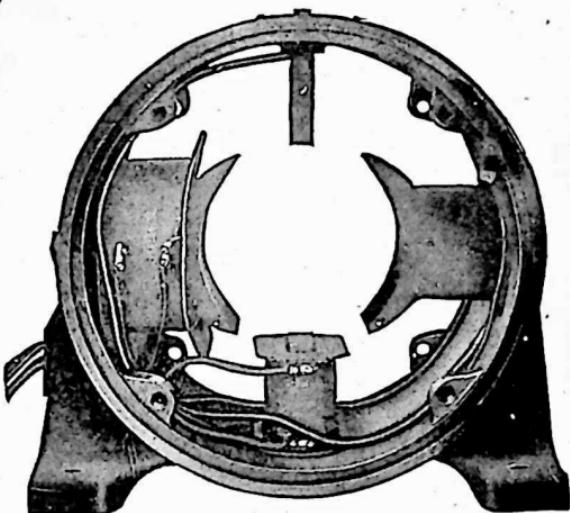

FIG. 128a. Frame of a General Electric two-pole generator showing partial assembly. The two small pole pieces are the commutating poles.
63. Commutating Poles. In between the main poles, most modern machines have smaller poles called commutating poles. See Fig. 128a.